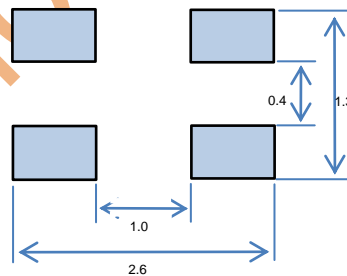

Fig.4-5 (Unit: mm)
4.4 Recommended PCB pattern for reflow soldering: See Fig. 4-5.